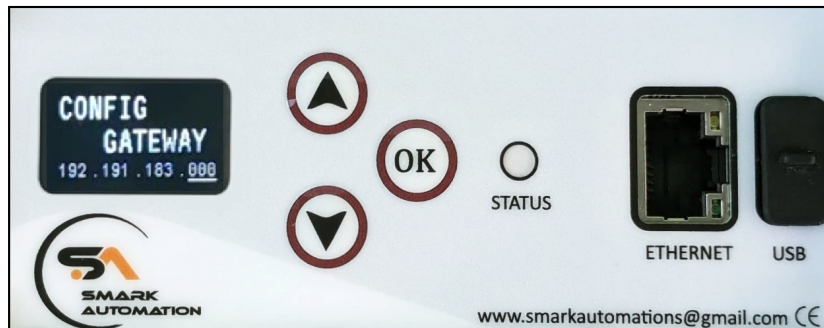

Figure 26: Configuring Gateway
- 3. Enter Gateway:** Next, user will be prompted to enter the Gateway, as shown in Fig 26. Once all three parameters are set, a confirmation message will appear: "NW Conf Set Reset Device to Apply".